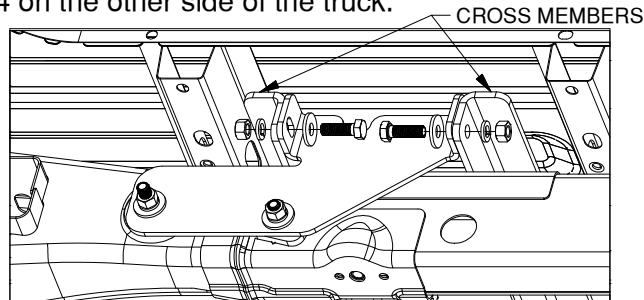

Figure C5: View of driver side wheel well.
4. **Attach side plates to cross members.** Attach the side plates to the cross members by passing two 1/2" X 1-1/2" cap screws and 1/2" flat washers through the side plate and cross members and securing with 1/2" lock washers and 1/2" finish nuts, as shown in Figure C5. Do not fully tighten at this time. Repeat Steps 3 & 4 on the other side of the truck.